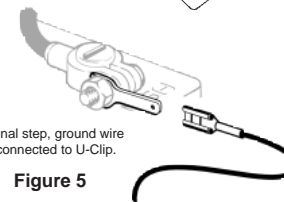

Figure 5
7. Connect PriorityStart! ground wire connector to installed U-Clip [Fig. 5].